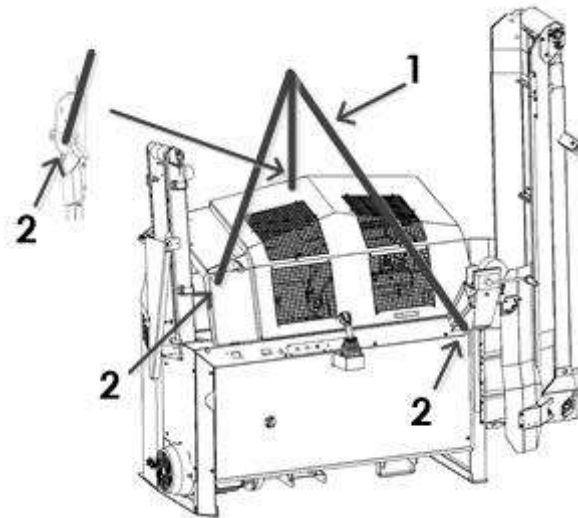

Figure 19
The machine can only be lifted with a lifting device using the attachment points provided for this purpose (2, Figure 19).
- Check the oil level through the inspection window (3, Figure 19).
- When the oil level drops below the minimum level (the oil is no longer visible through the inspection window), add oil through the filler cap (4).
- The oil volume is regulated with the screw (2).
- Loosen the safety nut (1), tighten or loosen the screw (2) and tighten the safety nut (1), if necessary.